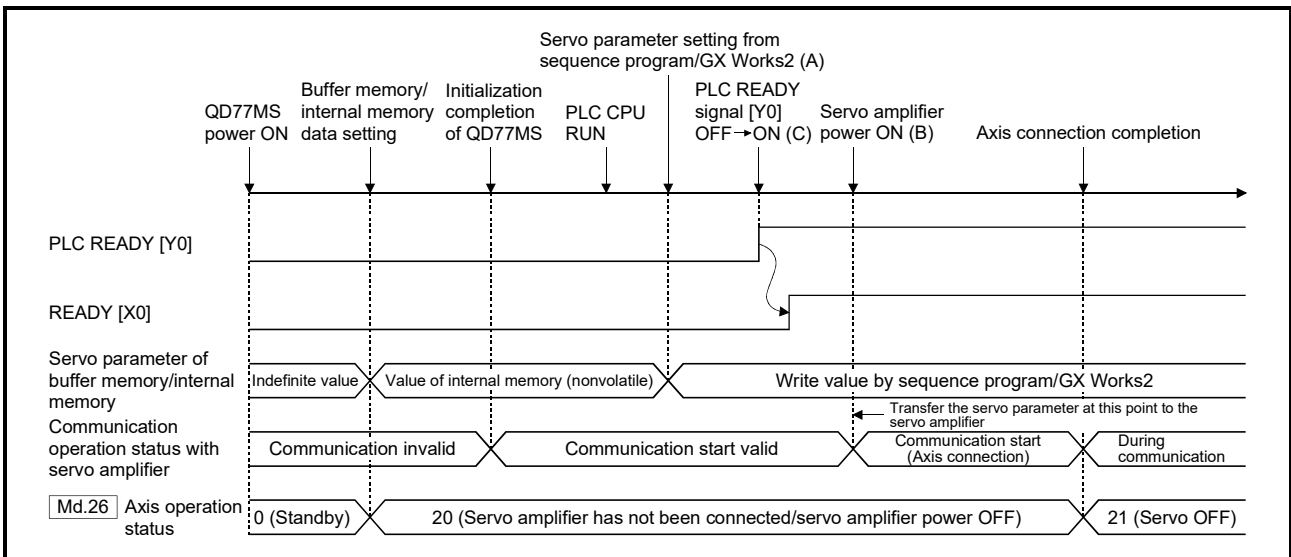

Fig. 7.3 When the servo amplifier had started after the PLC READY signal [Y0] is turned OFF to ON
(2) When the servo amplifier's power supply is turned ON after the PLC READY signal [Y0] is turned OFF to ON (Fig. 7.3 (C)).
Communication start timing to the servo amplifier: When the servo amplifier had started (Fig. 7.3 (B)).
Transfer the servo parameter : The data written from sequence program/GX Works2 before the PLC READY signal [Y0] ON (Fig. 7.3 (A)).